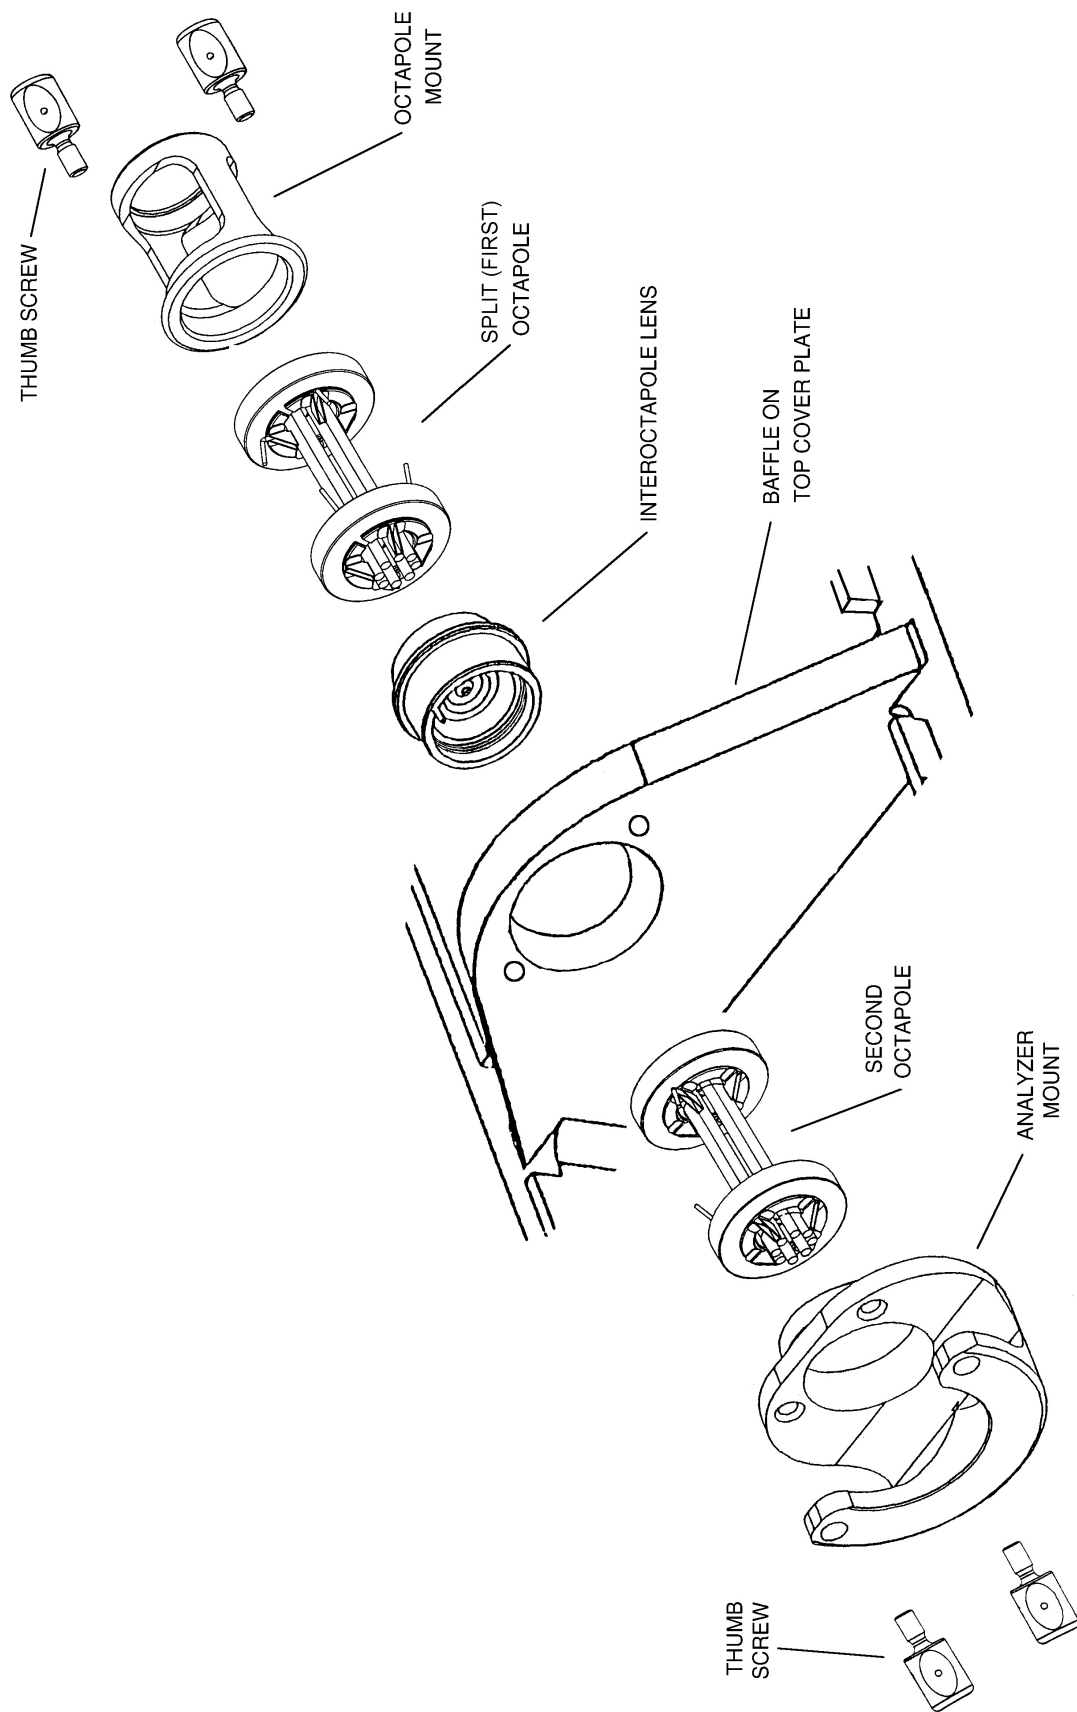
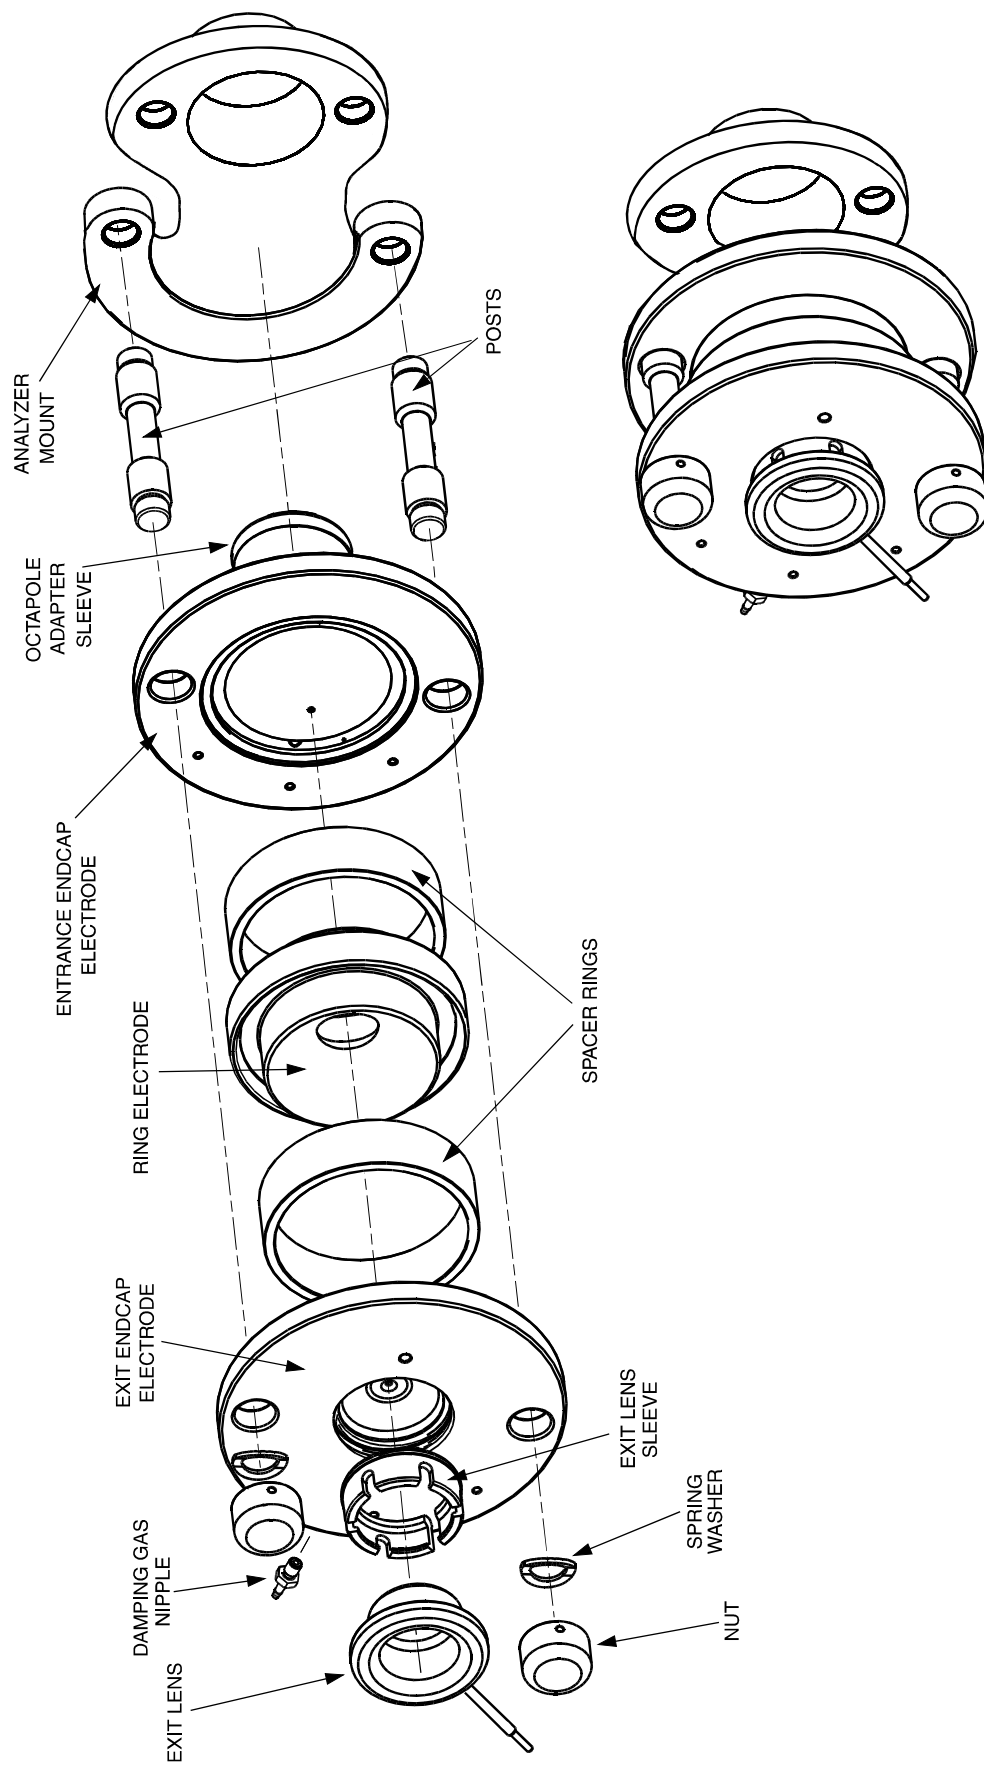

Figure 4-6. Exploded view of the ion optics
Figure 4-7. Exploded and assembled views of the mass analyzer
Use the following procedure to remove the ion optics and mass analyzer from the top cover plate. Refer to Figure 4-6 and Figure 4-7 for the location of the ion optics and mass analyzer components.
To disassemble the ion optics and mass analyzer, proceed as follows. Refer to Figure 4-6 and Figure 4-7 for the location of the ion optics and mass analyzer components.
Use the following procedure to reassemble the ion optics and mass analyzer. Refer to Figure 4-6 on page 4-26 and Figure 4-7 on page 4-27.
- k. Squeeze the exit lens sleeve and insert it into the recess in the exit endcap electrode. See Figure 4-7 on page 4-27 for the proper orientation of the exit lens sleeve.